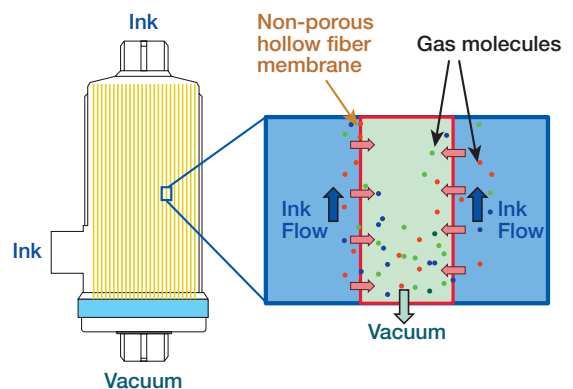

Figure 2: Schematic of fiber showing directional flow
- 3.2 Connect ink inlet / outlet and the vacuum port. (See figure 2.) Verify that connection surfaces are clean and not damaged. Make sure not to overtighten the NPT fittings.